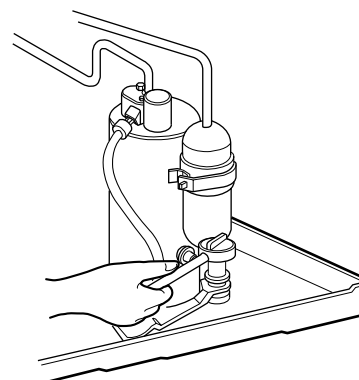

Figure 26
5. Remove the 3 nuts and the 3 washers which fasten the compressor. (See Fig. 26)